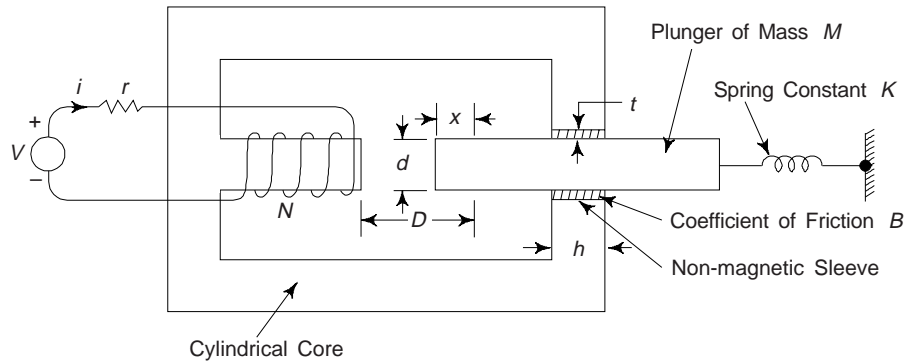

Fig. P4.12
4.12 Figure P4.12 shows the cross-sectional view of a cylindrical plunger magnet. The position of the plunger when the coil is unexcited is indicated by the linear dimension D . Write the differential equations describing the dynamics of the electromagnetic system. Determine the equilibrium position of the plunger and linearize the describing equation for incremental changes about the equilibrium point. Assume the iron to be infinitely permeable.